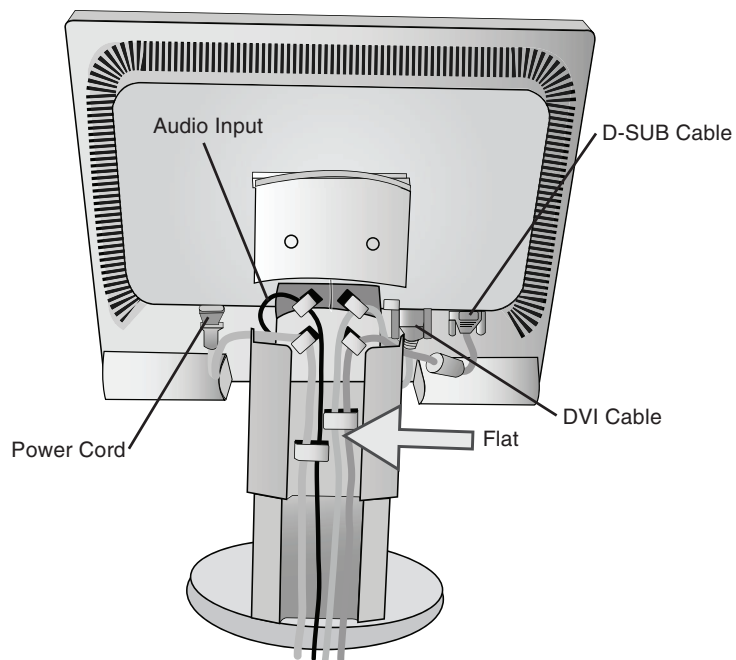
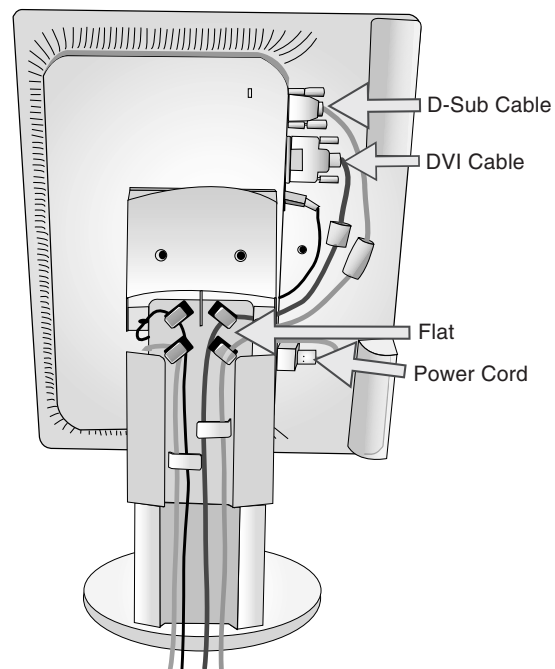

Figure C.2
Figure C.3
5. To keep the cables neatly organized, place them into the cable management system that is built into the stand. Place the Power cord into the specific hooks, as indicated in **Figure C.2/**Figure C.3. Place the D-Sub and the DVI cables into the specific hooks, as indicated in **Figure C.2/**Figure C.3.
6. Make sure all cables are resting flat against the stand (**Figure C.2**). Please check Tilt, Rise and Lower monitor screen and screen rotation when you manage cables.